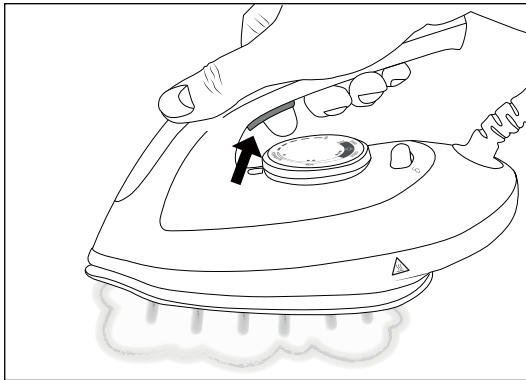

Fig. 9
- 5) While ironing, press and hold the steam button **2** to continuously spray steam from the soleplate **8** onto the items being ironed (see fig. 9).